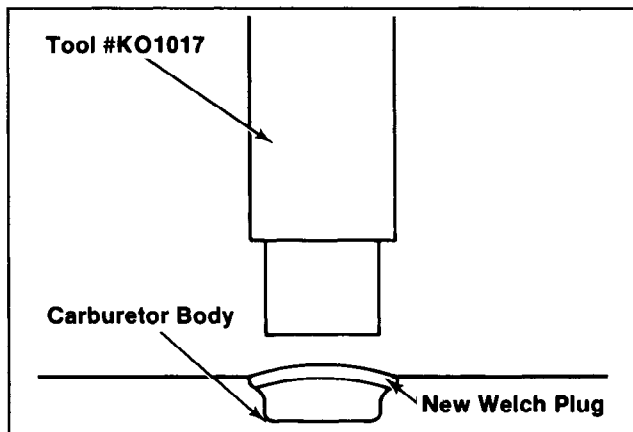

Figure 6-29. Installing Welch Plugs.
- B. Place a new welch plug into the cavity with the raised portion up. Use the end of the tool that is about the same size as plug and **flatten** the plug. Do not force the plug below the top surface. Refer to Figure 6-29.